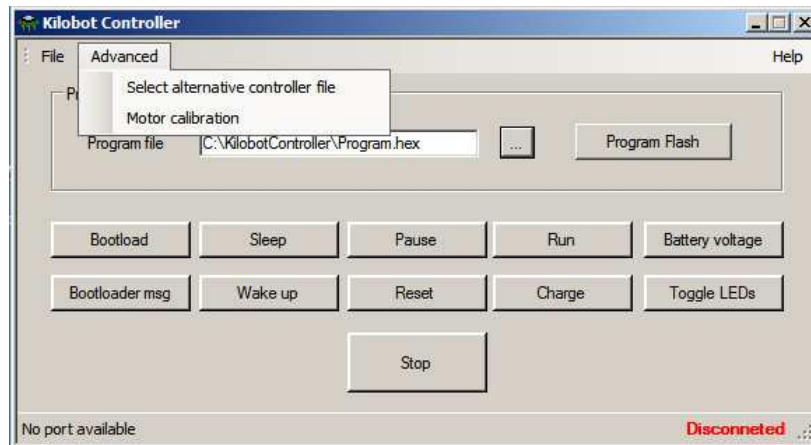

Figure 4.14: Advanced menu
2. Choose the calibration transmitter program *OHC_motor_cal.hex* to the OHC with the advanced menu “Select alternative controller file” and push “Program flash button to reprogram the Kilobot Controller in motor calibration mode (Figure 4.14).